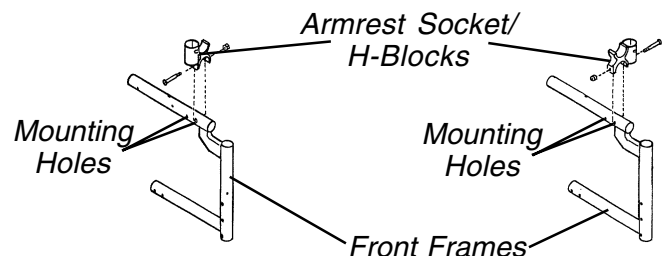

FIGURE 1 - FRONT ARMREST SOCKET REPLACEMENT/H-BLOCK INSTALLATION
FRONT ARMREST SOCKET REPLACEMENT/H-BLOCK INSTALLATION (FIGURE 1)
1. Remove the locknut and screw securing the H-block to the right and left front frames (FIGURE 1).
- Loosely secure the brackets, armrest socket, armrest spacer and bracket spacer together using one (1) of the two (2) long hex screws and a locknut.
- Position the armrest bracket on the rear frame making sure that the armrest spacer is positioned on the outside of the rear armrest socket. Refer to DETAIL "A" in FIGURE 1.
- Secure the assembly of the chair frame using two (2) of the four (4) short hex screws and locknuts.